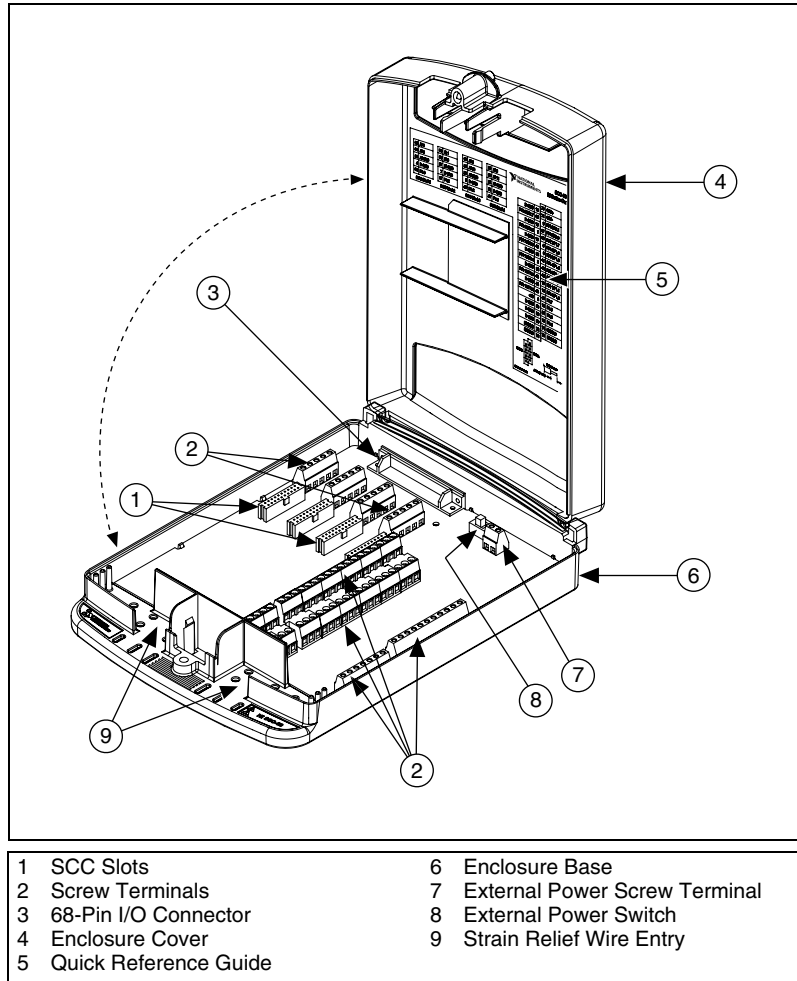

Figure 1. SCC-68 Parts Locator Diagram
1. Attach the quick reference guide, shown in Figures 21 and 22, to the top of the SCC-68 enclosure as shown in Figure 1. The quick reference guide for Connector 0 (included in the SCC-68 kit) shows the pin assignments of the SCC-68 and other useful information.
2. Refer to Figure 22 in the Quick Reference Guides section for the quick reference guide for the SCC-68 connected to Connector 1 of the DAQ device. The guide shows the pin assignments of the SCC-68 and other useful information. Attach a copy of this guide to the top of the SCC-68 enclosure as shown in Figure 1.
2. Refer to Figure 23 in the Quick Reference Guides section for the quick reference guide for the SCC-68 connected to the E Series DAQ device. The guide shows the pin assignments of the SCC-68 and other useful information. Attach a copy of this guide to the top of the SCC-68 enclosure as shown in Figure 1.
2. Refer to Figure 23 in the Quick Reference Guides section for the quick reference guide for the SCC-68 connected to the E Series DAQ device. The guide shows the pin assignments of the SCC-68 and other useful information. Attach a copy of this pinout to the top of the SCC-68 enclosure as shown in Figure 1.
To connect signals to the SCC-68, complete the following steps while referring to Figure 1.